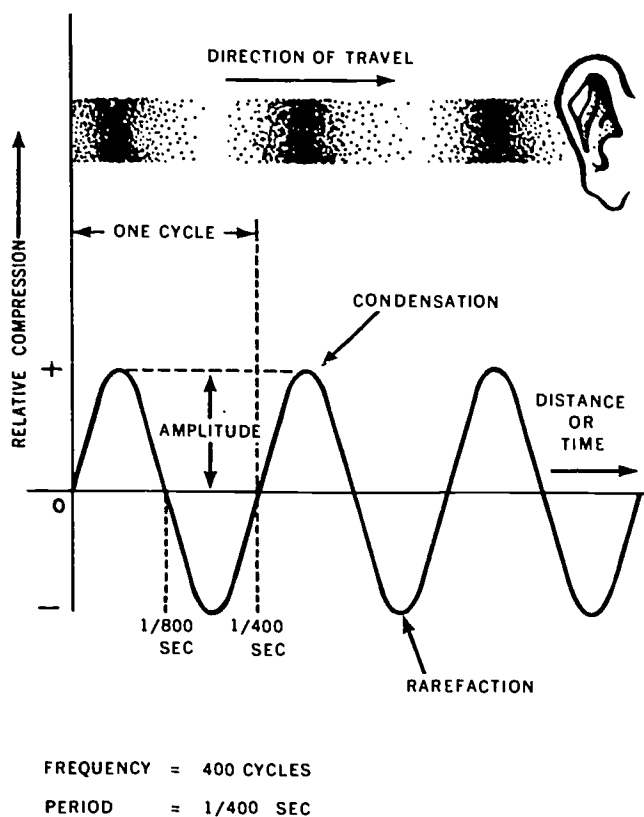

Figure 6-1. Waveform of a simple sound.
The movement of the air molecules set up by a moving piston produces sound waves which travel outward in all directions. Figure 6-1 illustrates sound waves and their direction of travel. These sound waves result from the condensation and dispersion of the air molecules.
Sound Transmission. Sound waves moving in the vicinity of a person will stimulate the nerves and auditory centers of the brain, hence the person hears the sound. The stimulation, of course, is caused by vibrations or sound waves which are transmitted to the ear through a material medium, such as air or atmosphere (see fig. 6-1). The sensation of sound is caused by physical vibrations occurring about us in the atmosphere. For example, when someone is speaking to you, the vibrations caused by the speaker's vocal cords are recognized by your ears as sound. Sound waves may be shown graphically in much the same manner as showing alternating current with a sine wave. As a matter of fact, when a group of sound waves are of identical shape and amplitude, they may be represented by a pure sine wave. If the waveshape is regular in form, the sound we hear may be a steady tone; if the shape is irregular, we may only hear a noise. As an example of graphic representation, look again at figure 6-1, where the sound wave is plotted as a line and the
condensations (points of bunching) are shown by wave peaks. Each period of condensation of the air molecules develops one alternation (one-half cycle) on the graph. Also, the period of dispersion (rarefaction) of the air molecules provides the second alternation of the cycle. Hence, the three periods of condensation and rarefaction provide three cycles on the graph. This graph may be compared to the graph showing alternating current sine-wave development (fig. 4-17). In both graphs, you should note the + and - amplitude peaks from the horizontal (0) axis. In addition, each cycle represents an interval of time. In figure 6-1, each alternation is 1/800 of a second and the cycle requires 1/400 of a second (2.5 milliseconds). Thus, during each second, there are 400 sound wave cycles. (REMEMBER: Frequency is the term used to indicate the number of cycles per second.)
Complex Sounds. Complex sounds consist of two or more simple sounds, each having its own frequency and amplitude. Most sound sources in telephony do not produce sounds of the simple form represented by the sine wave seen in figure 6-1. The variations of the voice are of considerable importance in telephony, for any part of the telephone system which suppresses or distorts them makes the transmitting voice less intelligible.